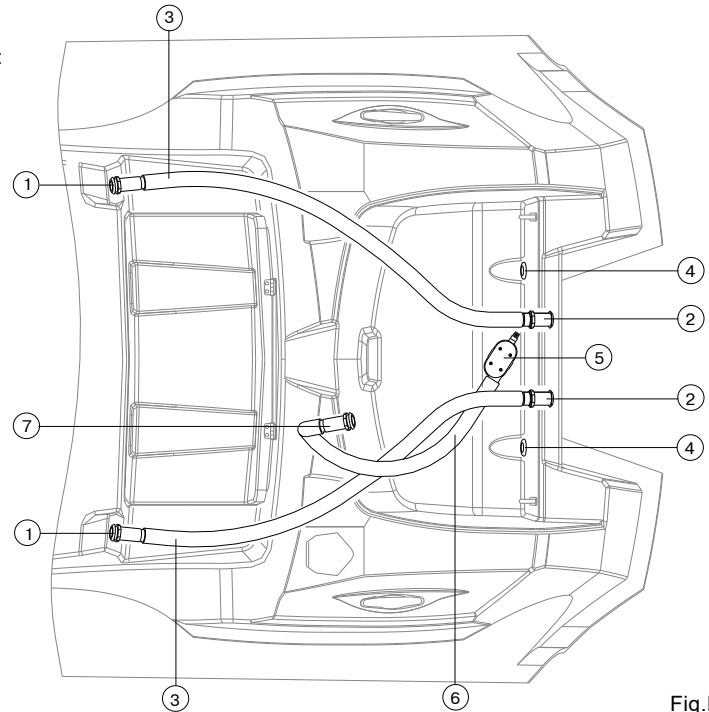

Fig.D8
- two cockpit drain sockets with plugs (1);
- two stern drain sockets with flexible diaphragms (2);
- two drain hoses (3);
- drain socket thru-hull out of motor recess (4);
- automatic bilge pump (5);
- drain hose (6);
- drain socket installed in the motor recess (7);
- bilge drain socket (8) (Fig.D8).